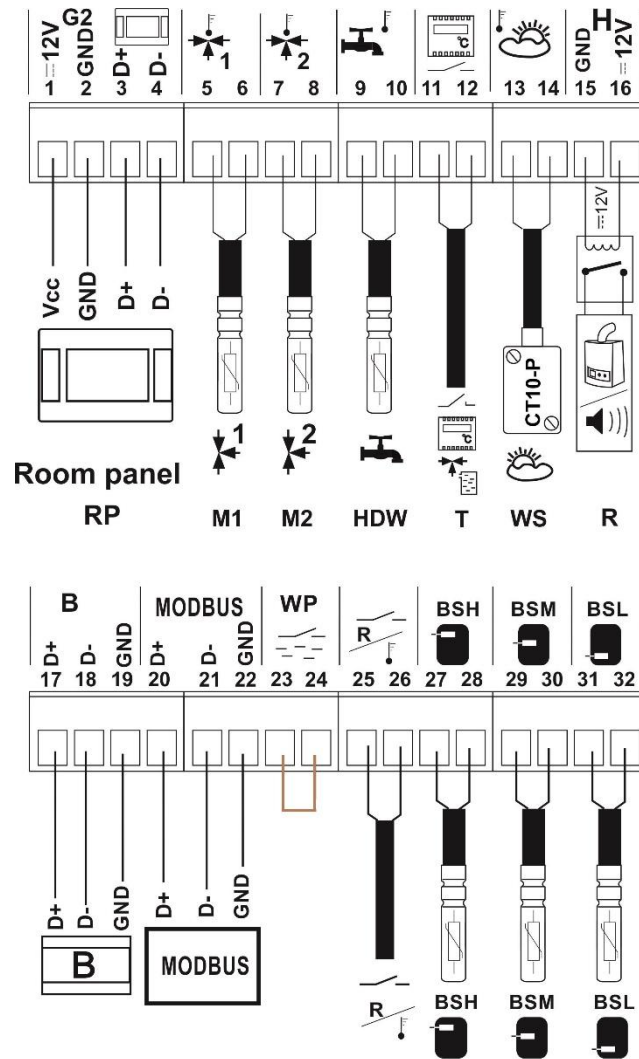

Figure 19. Wiring diagram of sensors and room panel
Connect the appropriate external sensor to the corresponding terminals on the switchboard (see Figure 19) and place the measuring element at the desired location in the heating system. The sensor cable must not be in contact with hot surfaces of the boiler or heating system and must be secured against pulling out.
The sensor is connected by a cable with a minimum cross-section of 0.5 mm², maximum 25 m long. The polarity of the wires is not important. Connect the free end of the cable to terminals 13-14 (see Figure 19) on the left wall of the controller cabinet.
- connect the Mixer temperature sensor on the left wall of the controller cabinet (see Figure 19)
Connect the thermostat to terminals 11-12 (Figure 19) on the left wall of the controller cabinet. After installation, the room thermostat needs to be enabled in the menu to control the mixed heating circuits: